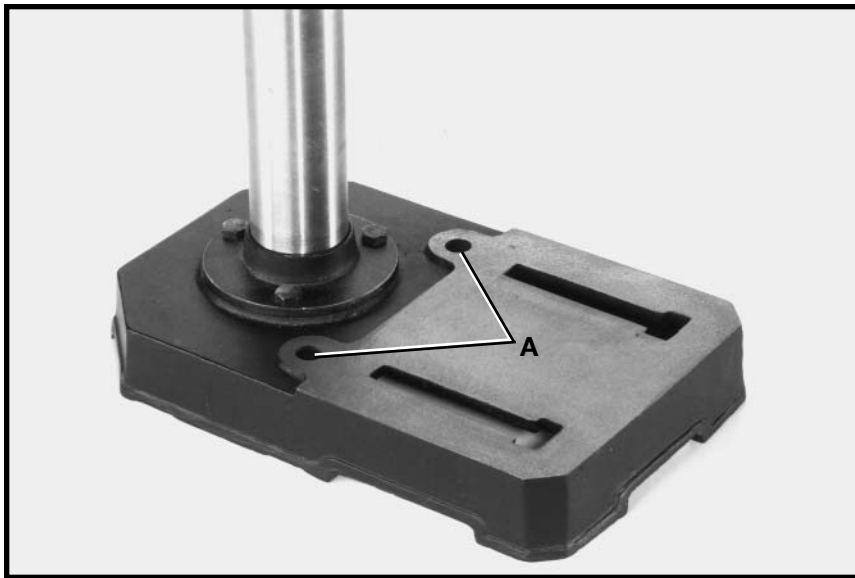

Fig. 14
If during operation there is any tendency for the drill press to tip over, slide or walk on the supporting surface, the drill press base must be secured to the supporting surface with fasteners through the two holes (A) Fig. 14, located in the drill press base.